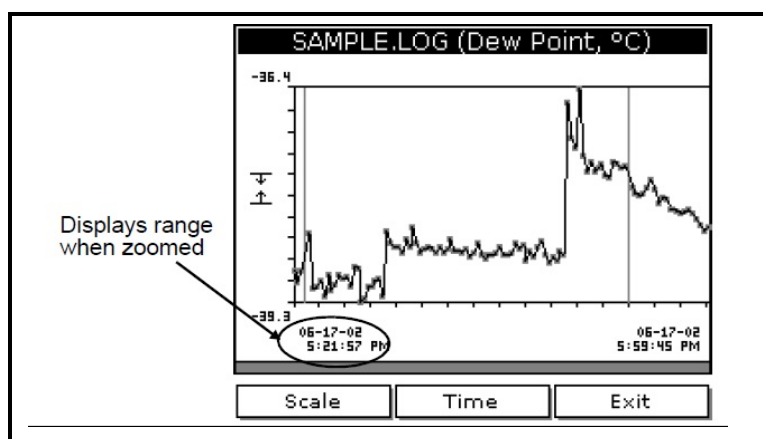

Figure 39: Log Graph Display Window
2. Press **[F3]**, View. A screen similar to Figure 39 appears.
- To zoom in and out by 200%, press **[▼]** to zoom in and **[▲]** to zoom out. when zoomed, use the **[◀]** and **[▶]** keys to scroll through the graph. The screen displays the range when zoomed. See Figure 39.